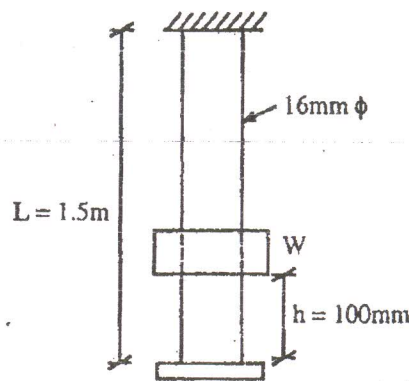

Fig.4
- (b) A vertical steel bar having 16 mm diameter; 1.5 m long is provided with a collar at lower end as shown in Fig 4. Find the maximum weight that can be dropped through a height of 100 mm over the collar if maximum permissible tensile stress is 150 MPa. $E=200$ GPa. [5]